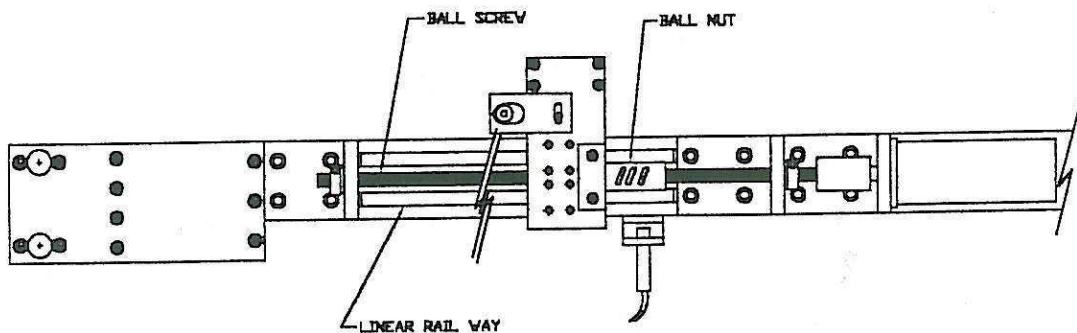
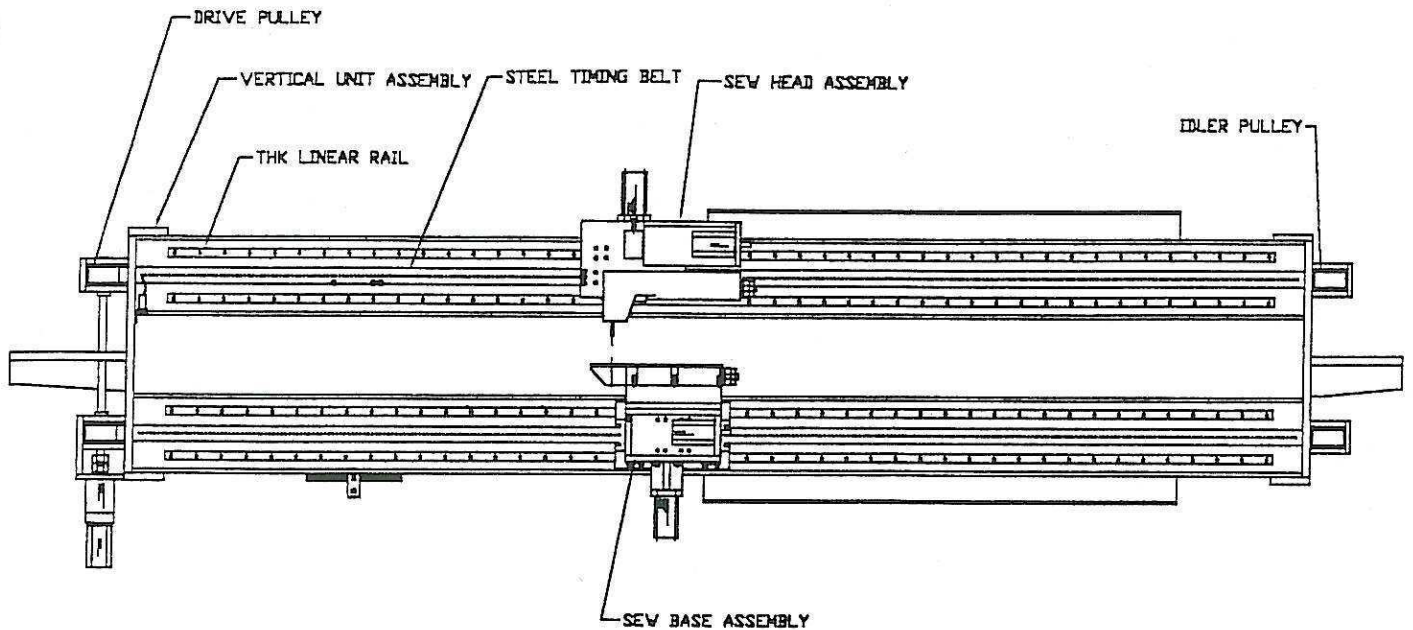

FIG.2
FIG 3
- 3- USE LITHIUM GREASE TO LUBRICATE ALL BALL BEARINGS INCLUDING: PILLOW BLOCKS, FLANGE BLOCKS, THK BALL-SCREW AND ALL PRESS FIT BEARINGS. SEE FIG.2 .
- 4- GREASE ALL ROLLER CHAIN ELEMENTS EVERY TWO MONTHS. OIL THE THK LINEAR BEARING X-AXIS AND Y-AXIS RAILS AND BEARING BLOCKS. REMOVE ALL DIRT, DUST AND GRANULATED PARTICLES FROM RAILS. SEE FIG. 3 FOR X-AXIS.
- 6- REMOVE ALL THREAD AND DUST FROM BALL SCREW SEE FIG. 2 . ALSO, REMOVE ALL FOREIGN MATERIAL SUCH AS SCREWS, BOBBIN SHELLS, NEEDLES, THREAD, AND SMALL TOOLS FROM THE MAIN HORIZONTAL AXIS UNIT. SEE FIG. 3 . IF THESE FOREIGN MATERIALS ARE NOT REMOVED FROM MAIN HORIZONTAL UNIT, THE SEW HEAD/BASE UNITS WILL CRASH AND CAUSE STEEL TIMING BELTS FAILURE OR THK BEARING BLOCKS FAILURE. CHECK FOR THESE MATERIALS EVERY FEW HOURS.